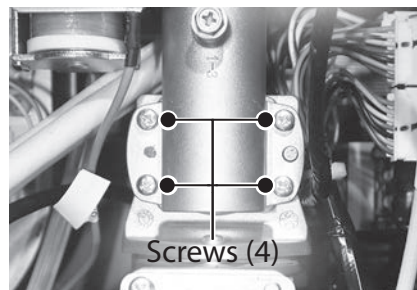

Figure 87 - Remove gas valve screws
- 13 Locate and remove the four screws securing the gas valve to the gas manifold. Place screws aside in a safe place for reinstallation. See Figure 87.
- 17 Remove the clear gas tube from the gas valve and place aside. See Figure 87.
- 18 Disconnect the two wire harnesses connected to the gas valve. See Figure 87. The wires are labeled:
- 29** Locate the four screws previously removed in **Step 13**, and secure the gas manifold to the gas valve. See Figure 87.